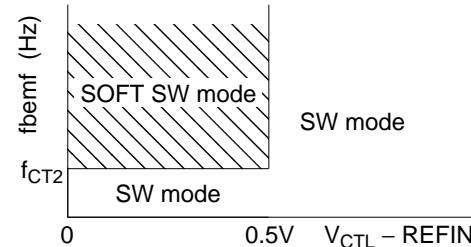

Figure 3
5. The circuit operates in soft switching drive mode only when the control input (Vctl) is lower than  $f_{CT2}$  and  $f_{PHASE}$  is higher than the threshold voltage. See figure 3.